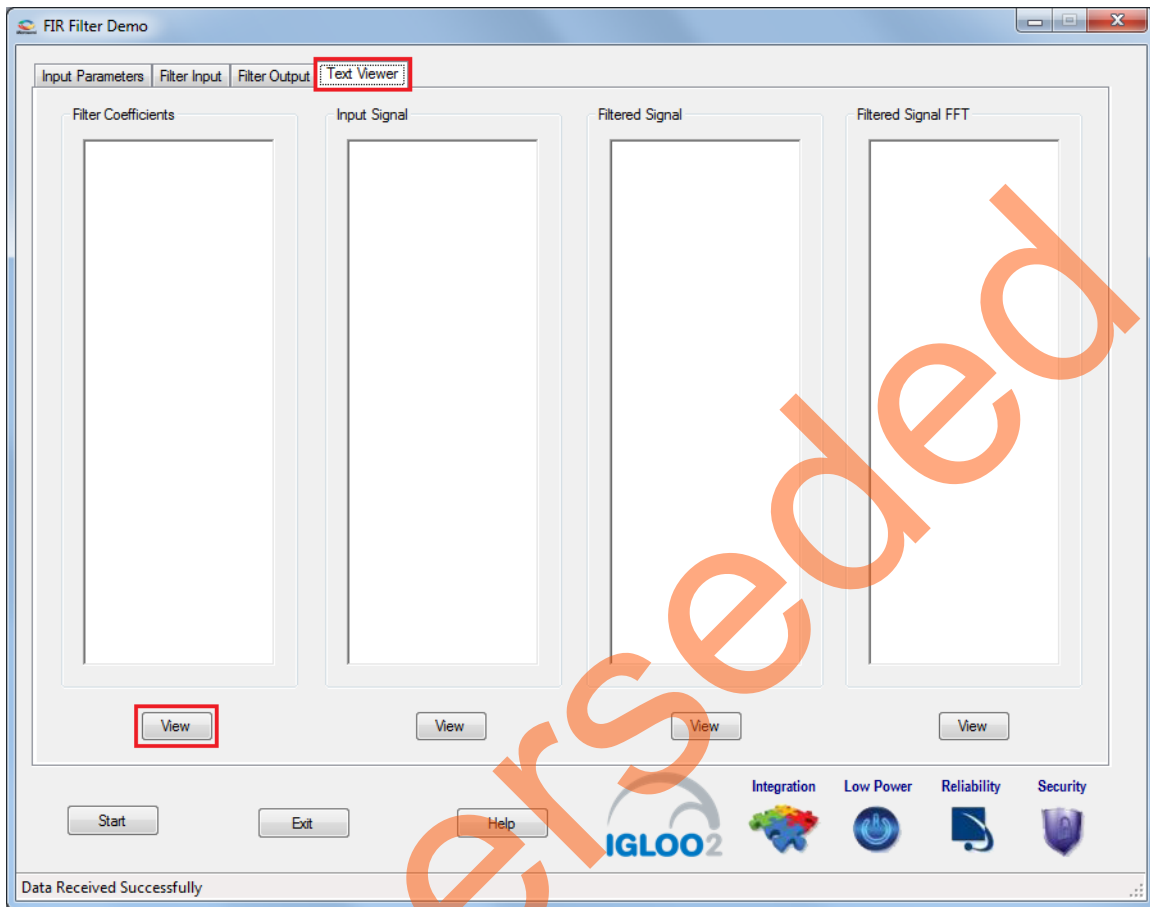

Figure 19 • Text Viewer
9. The filter coefficients, input signal, output signal, and FFT output data values can be viewed in the **Text viewer**. Click **Text Viewer** and click the corresponding **View**, as shown in Figure 19.